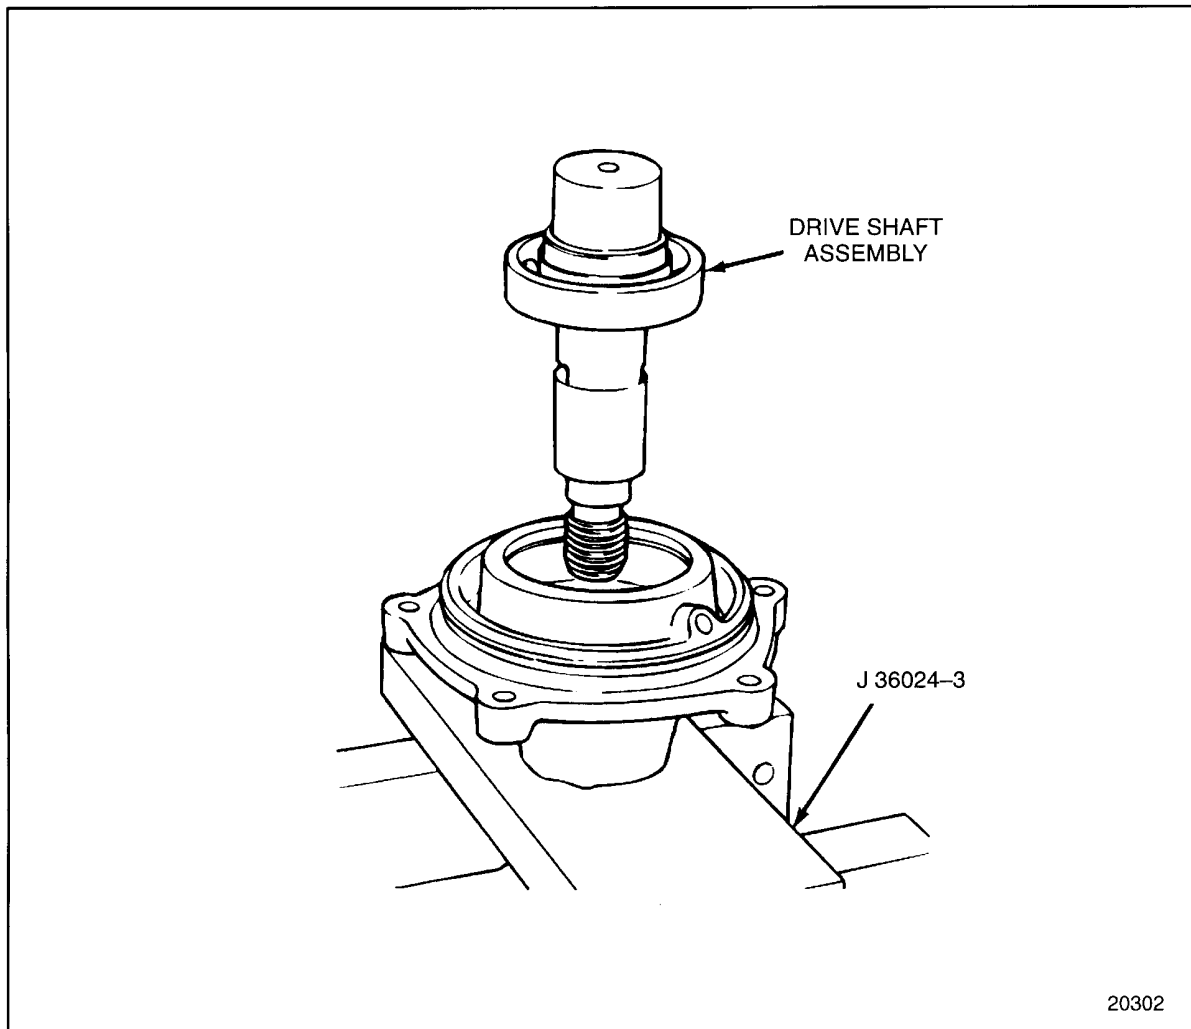

Figure 1-404 **Accessory Driveshaft Installation**
11. Press the bearing into the housing until the bearing is seated against the shoulder of the housing. See Figure 1-404.